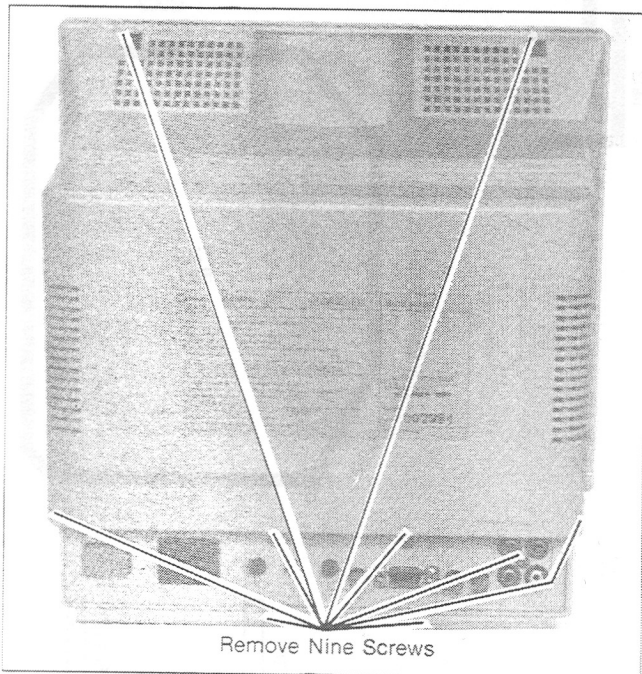

Fig. 3
CHASSIS REMOVAL (SEE FIGS. 3/4)
1. Remove the nine screws securing the rear cover of the cabinet. (See Fig. 3)